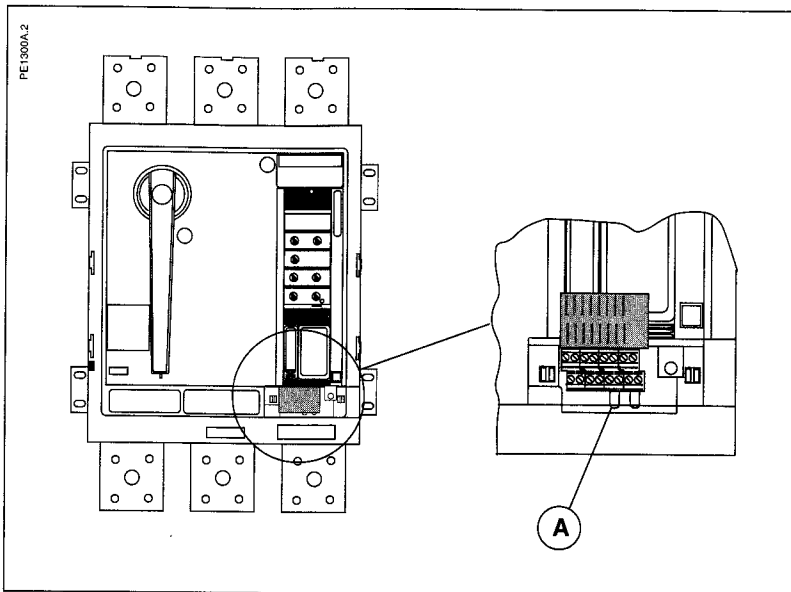

Figure 37 Terminal Block
1. If system design requires circuit breaker to be self-restrained, self-restrain it by leaving factory-installed jumper between terminals 5 and 6. Otherwise, remove factory-installed jumper (A) from short-time terminals 5 and 6 (Figure 37).